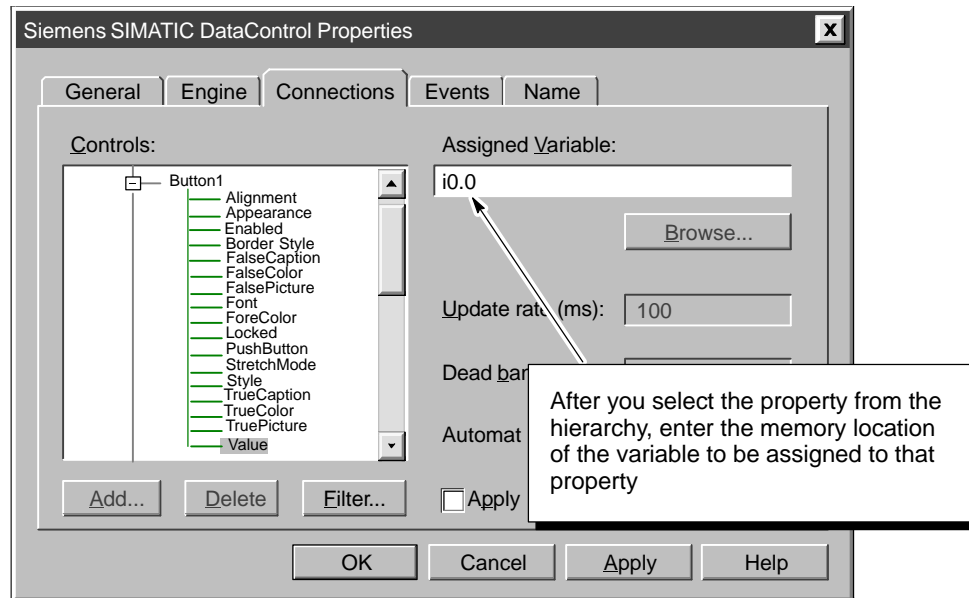

Figure 1-20 Assigning the Value Property to a Variable
3. Click on the "+" beside Button1 (or double-click on Button1) to display the properties for the Button control. See Figure 1-20.
5. As shown in Figure 1-20, enter "i0.0" in the "Assigned Variable" field. (You can use either upper case or lower case for designating memory locations.)